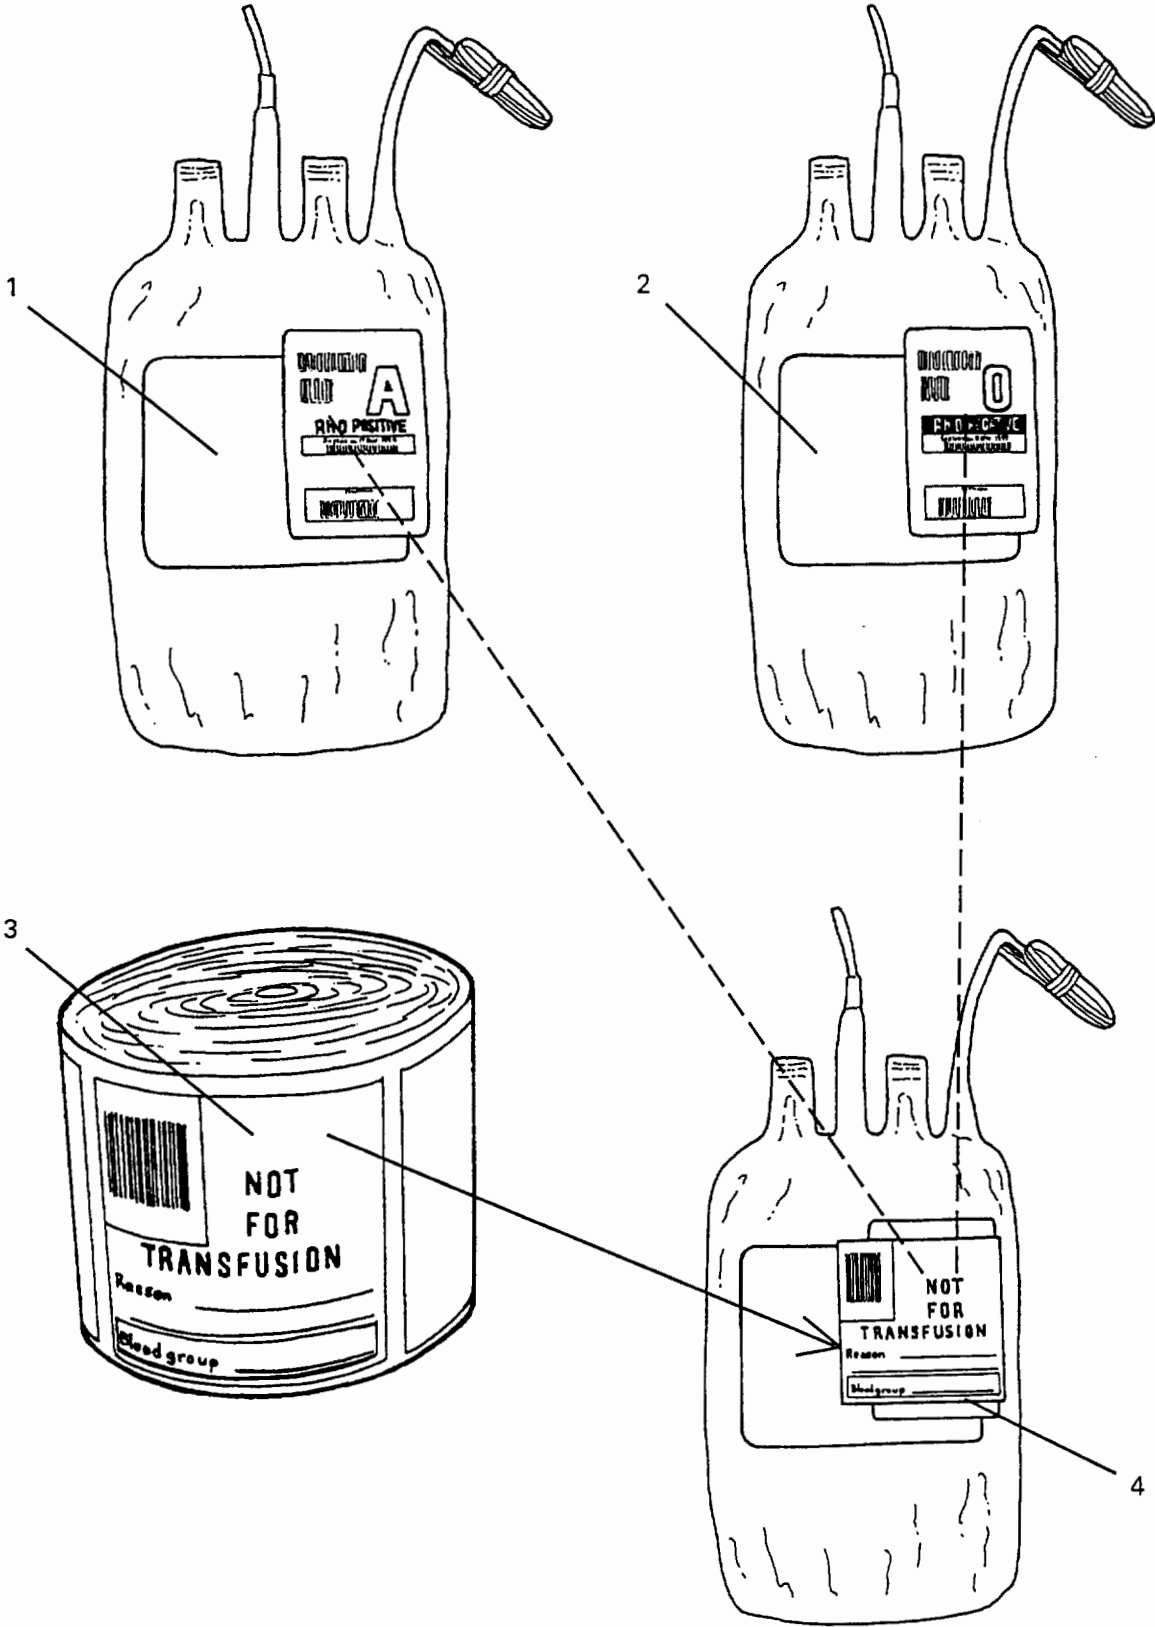

Figure 3-23 — Contaminated Units of Blood Labelling Procedure
- a. Remove all units of blood (1, 2) from the refrigerator (Fig 3-23).
- b. Complete a "Not for Transfusion" label (3) with the details from each unit of blood (Fig 3-23).
- c. Peel off the label from the roll and fix it over the blood type label (4) on the unit of blood (Fig 3-23).